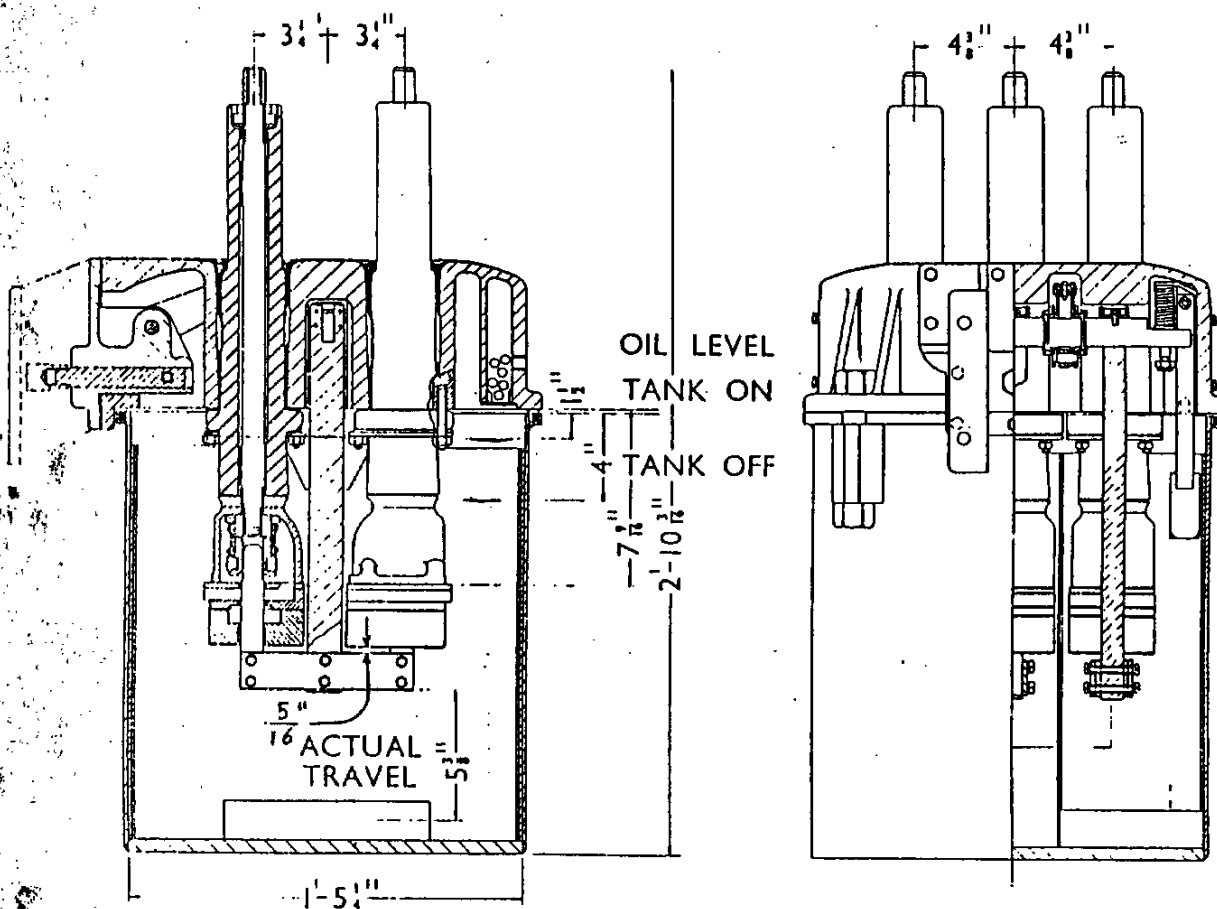

Fig. 2 General arrangement drawing
- Fig. 2 General arrangement drawing
In order to do this, it will be first necessary to disconnect the auxiliary switch drive rod from its associated drive block by removal of the headed pin; then slacken the drive block clamping bolt. This permits re-adjustment of the push nut so that the circuit-breaker may be set to the correct dimensions shown in Fig. 2.